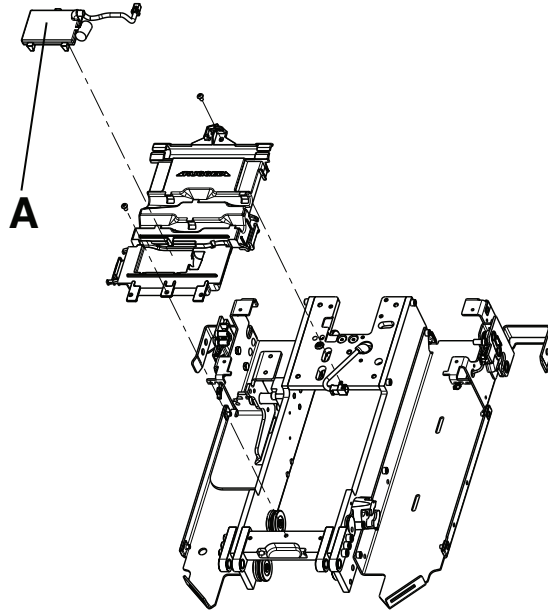

Figure 25 – Communication board assembly
4. Lift the trolley communication board (A) to remove (Figure 25). Discard the communication board.